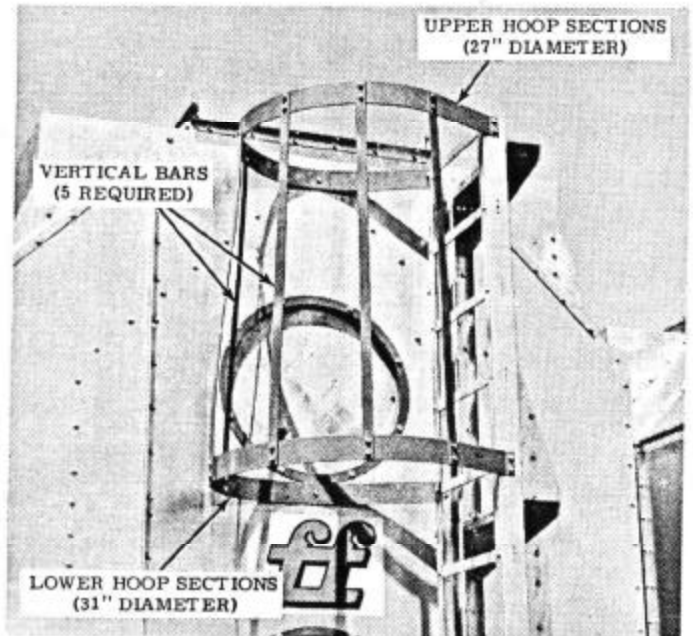

FIG. 2 - REAR SAFETY CAGE - BOTTOM MODULES
1. Refer to Figs. 2 and 3 and mount the two half sections of each safety cage hoop onto the outside of the rear ladder using 3/4" x 5/16" Dia. sheet metal screws.